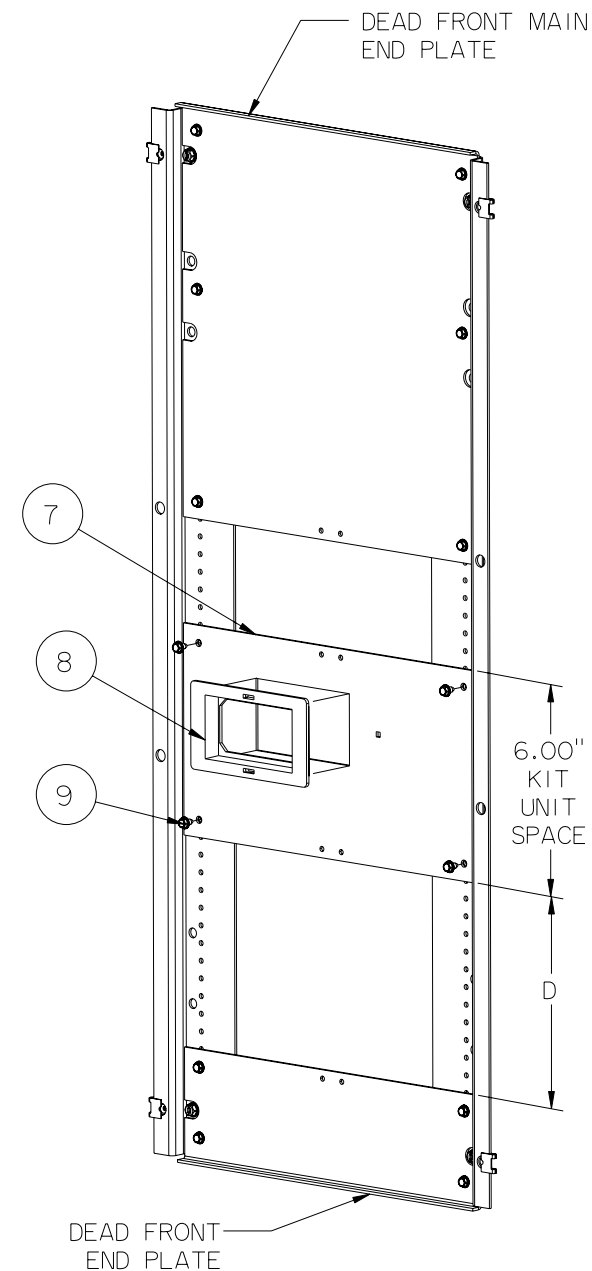

Figure 4
10. Refer to figure 4. - Identify the dead front area that will cover the 6" kit unit space. Measure the unit space locating dimension D directly from the dead front end plate as shown.
11. Remove any full width plate and any center strip covering the dead front area for the 6" kit unit space. Fasten the QJ branch deadfront plate (item 7) to the dead front side rails with four 8-32 screws (item 9). The plate can be inverted from the standard orientation shown, to place the cut-out in the lower portion of the plate for applications where a 2-pole breaker is mounted in the "lower" position in a 3 ϕ kit installation.